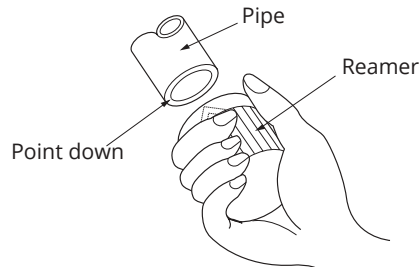

**Fig. 7.3**
1. Make sure that the pipe is cut at a perfect 90° angle. Refer to Fig. 7.3 for examples of bad cuts